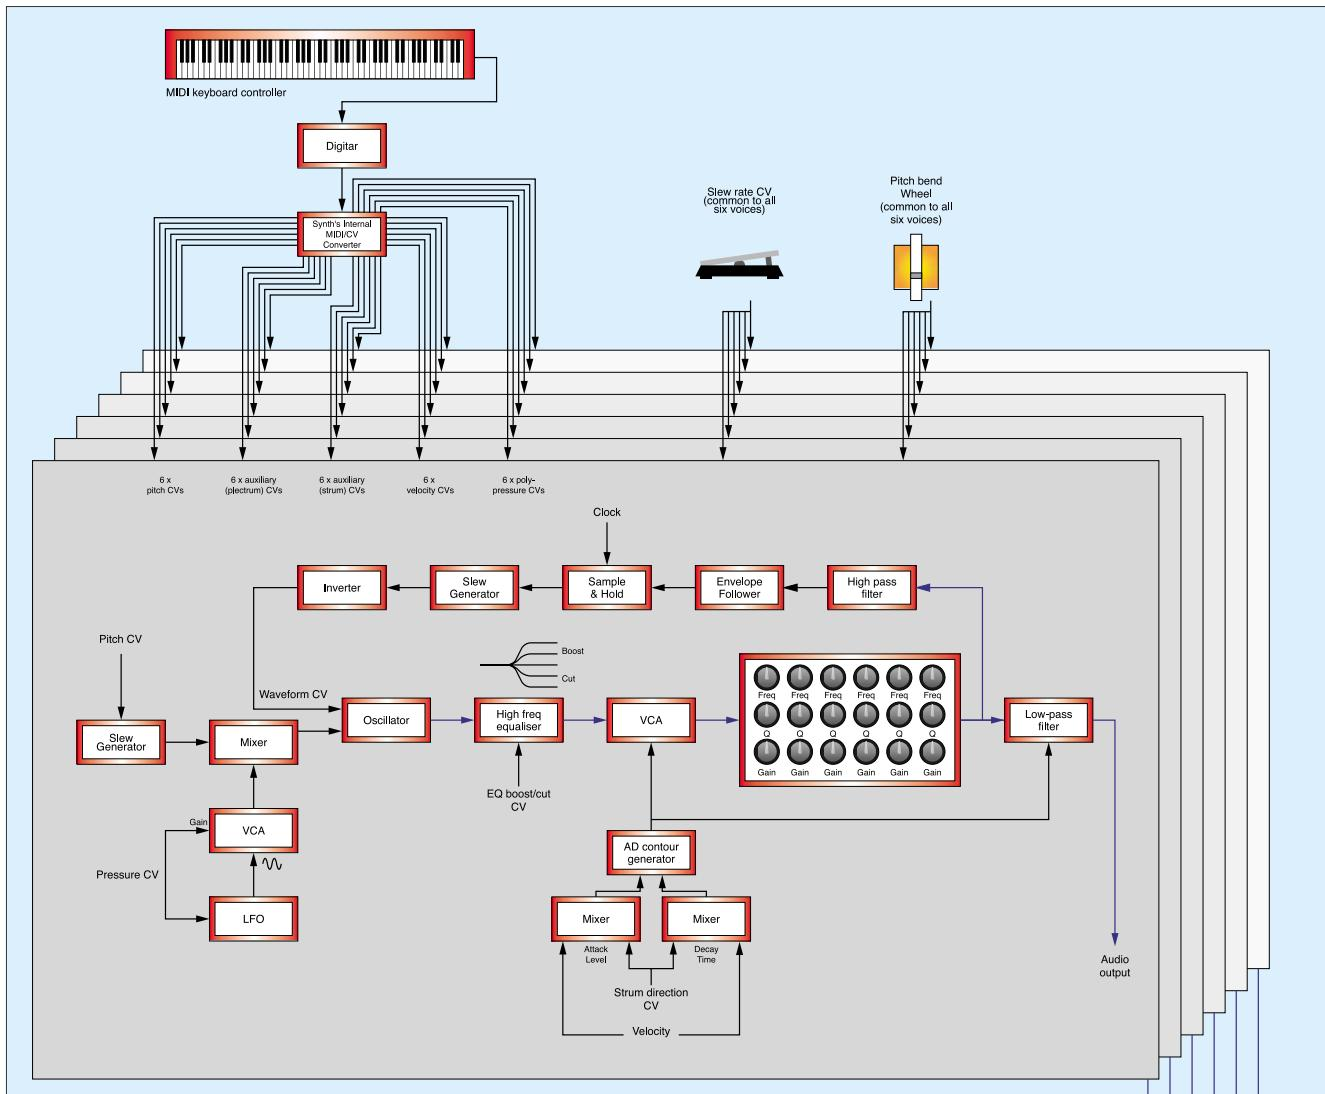
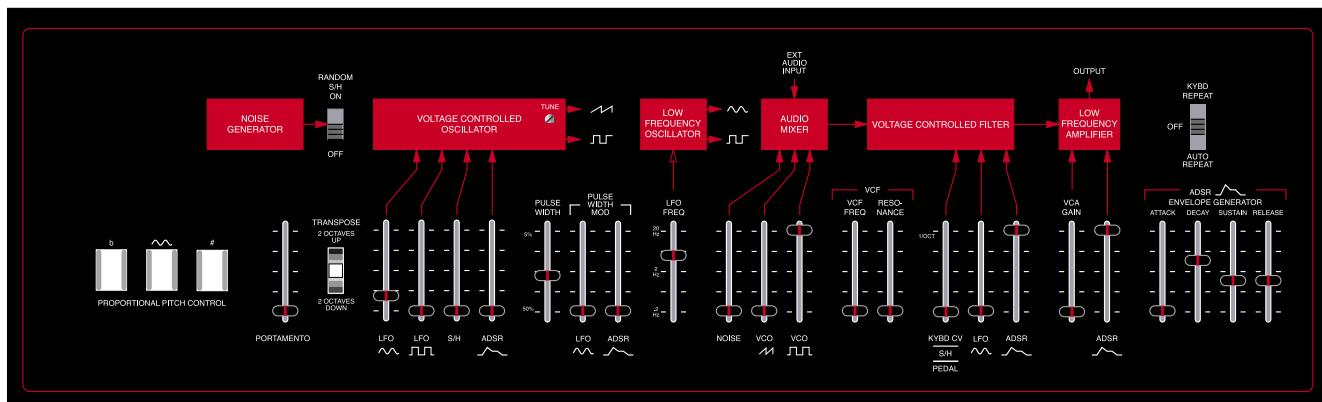
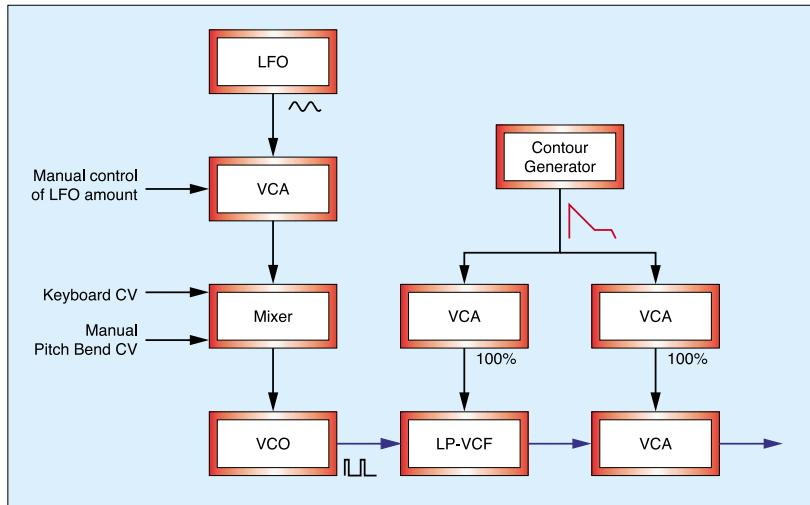
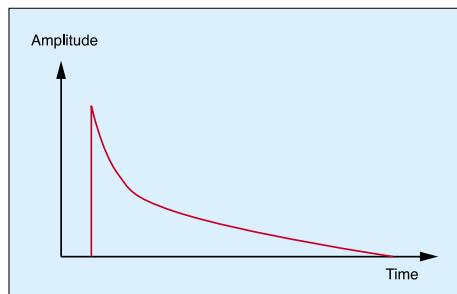

Figure 1: An analogue guitar synthesizer.
Figure 2: 'Jazz Guitar' from the ARP Axxe patch book.
Figure 3: The block diagram of the Axxe Jazz Guitar.
Figure 4: The amplitude and brightness contour of a guitar (from Part 28 of Synth Secrets).
We're going to try to use our knowledge of the electric guitar to simplify — or, at the very least, make more practical — the analogue 'model' of the acoustic guitar that concluded last month's Synth Secrets (see Figure 1, opposite).
► The final elements in our synthesized model lie at the top of Figure 1. These control voltages and physical controllers allow us to play the sound in a realistic fashion and, in an ideal world, we will retain all of them. After all, we still want to imitate all the nuances and performance capabilities of the guitar, whether the amplifier is a hollow body or a bunch of transistors.
If I follow customary Synth Secrets practice, I should now present a second diagram that depicts the ideal electric guitar patch. At this point in our analysis, however, this would seem to be identical to Figure 1 and, since I have no wish to be ritually beheaded by *Sound On Sound's* graphics department for gratuitous over-use of a hideously unwieldy diagram, I'm going to offer you something else. This is the 'Jazz Guitar' patch from the ARP Axxe patch book published by ARP in 1977 or thereabouts (see Figure 2 above).
As you can see, this patch is much simpler than the one depicted in Figure 1. This is inevitable; the Axxe is far too basic to do more. You can see just how simple it is by comparing the block diagram in Figure 3 (which shows all the elements of the patch) to the 100+ modules in Figure 1... Even ignoring the fact that the Axxe is monophonic, it's a huge difference.
Let's now look at the envelope generator. The contour generated by this is applied to both the VCF and of the VCA, thus shaping the note in the way suggested in Figure 1. However, the ADSR shape is set up rather strangely. I agree that the Attack should be as close to instantaneous as possible, and knowing the time constants of the Axxe's contours, a Decay of '6' or '7' seems reasonable. But what of the Sustain level of '4' or thereabouts? Unlike our analysis of a real guitar's contour (see Figure 4 above) the Axxe contour (shown in Figure 5, right) implies that a jazz guitar will sustain indefinitely if you ask it to do so, which — in my experience — is not the case. OK, the guitar could be heavily amplified, and the player could be